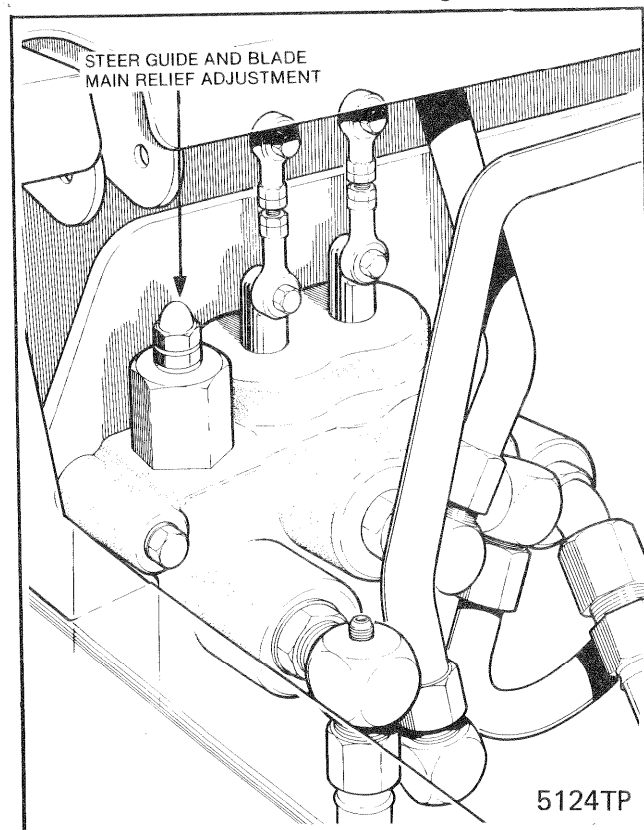

Fig. 11-4 Main Relief Pressure Port and Adjust Main Relief
6. To adjust the main relief, remove the acorn nut, loosen the jam nut and adjust the set screw located on the top of the main control valve assembly until 1,600 p.s.i. registers on the gauge per step number 5. Fig. 11-4